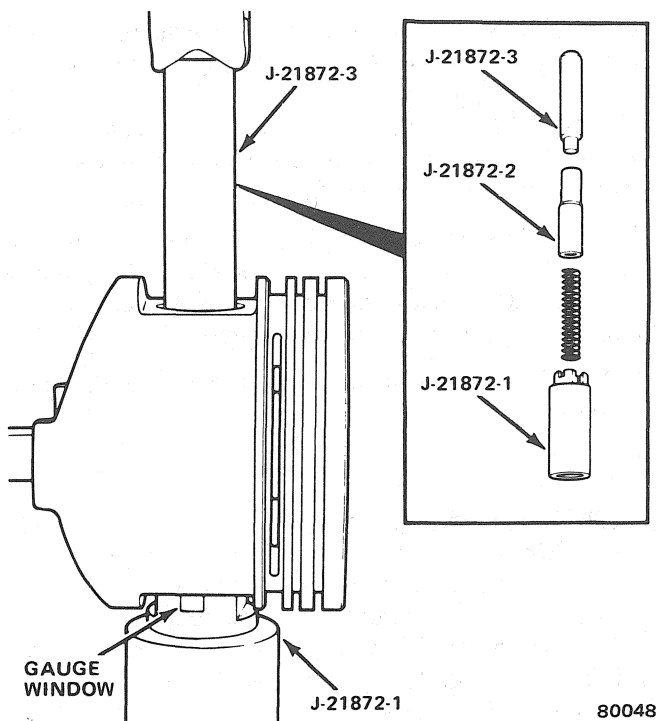

Fig. 1B-90 Piston Pin Removal or Installation
(1) Insert Pin Pilot Tool J-21872-2 through piston and connecting rod pin bores (fig. 1B-90).
(2) Position pin pilot, piston and connecting rod on Support Tool J-21872-1.
(3) Insert piston pin through upper piston pin bore and into connecting rod pin bore.
(4) Position Piloted Driver Tool J-21872-3 inside piston pin.
(5) Use arbor press to press piston pin through connecting rod and piston until pin pilot indexes with mark on support.
(6) Remove piston and connecting rod assembly from press. Pin should be centered in rod,  $\pm 0.0312$  inch (0.792 mm).